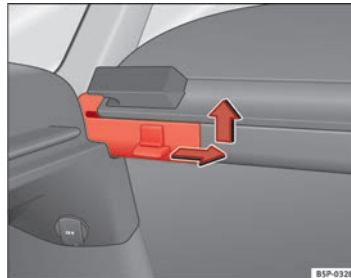

Fig. 124 Removing the rear shelf
- Press the side pin in the direction of the arrow, lift the cover and remove it ⇒ Fig. 124.